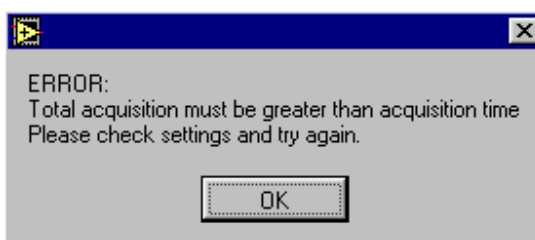

Figure 3.9: Error message following selection of incompatible parameters for a timed acquisition.
- 3.7.4 The Total acquisition time must be greater than or equal to the acquisition interval. If this condition is not satisfied, an error message will appear and the acquisition will be cancelled (Figure 3.9).